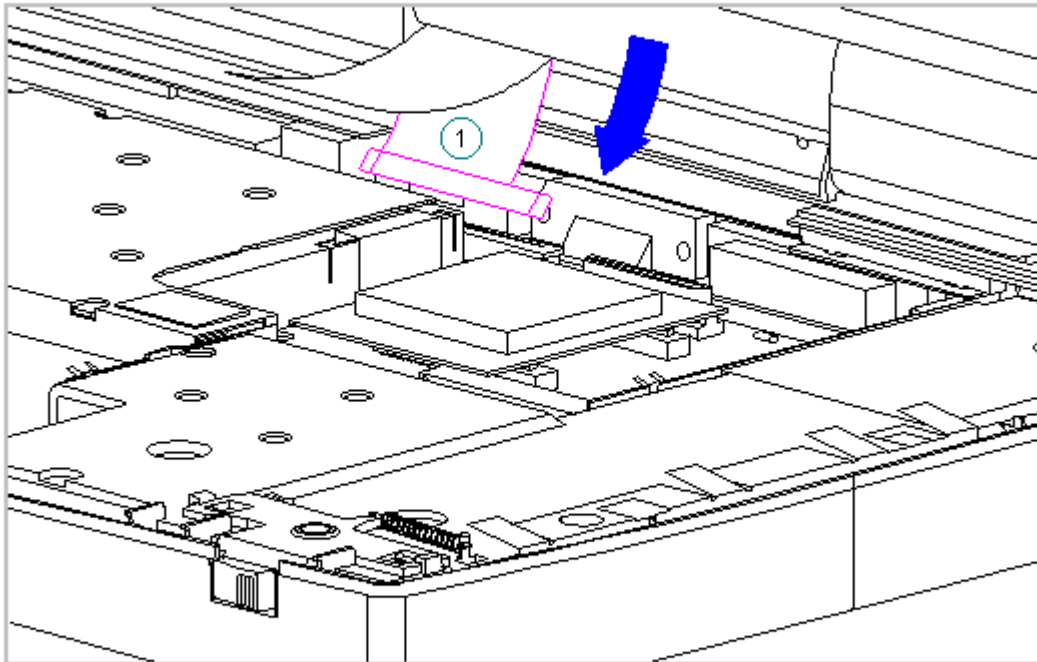

Figure 3-181. Connecting the Display Ground Cable to the LIF Clip on the System Unit Module (All Models)
30. Connect the display ground cable [1] to the LIF clip above the serial port connector between the system board and the system chassis (Figure 3-181).